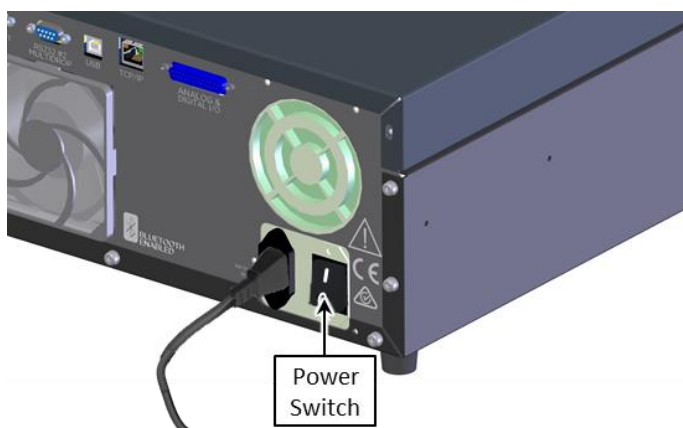

Figure 25 – Turn ON Power Switch
- Refer to Figure 25. Turn ON the power switch.